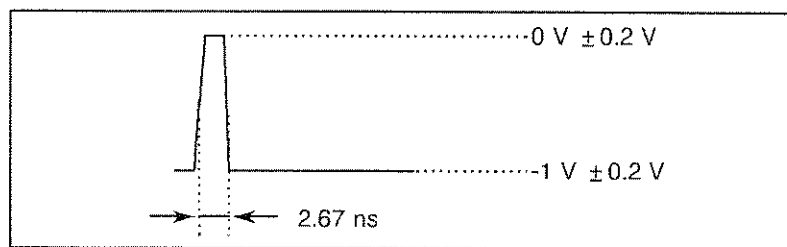

Figure 8-5 PATTERN TRIGGER Output Waveform ( $f = 12000\text{ MHz}$ ,  $5\text{ ns/div}$ )
- (7) Confirm that the waveform is a rectangular wave as shown in Figure 8-5. The pulse width is expressed in the following equation:
- (8) Set the oscilloscope as follows: